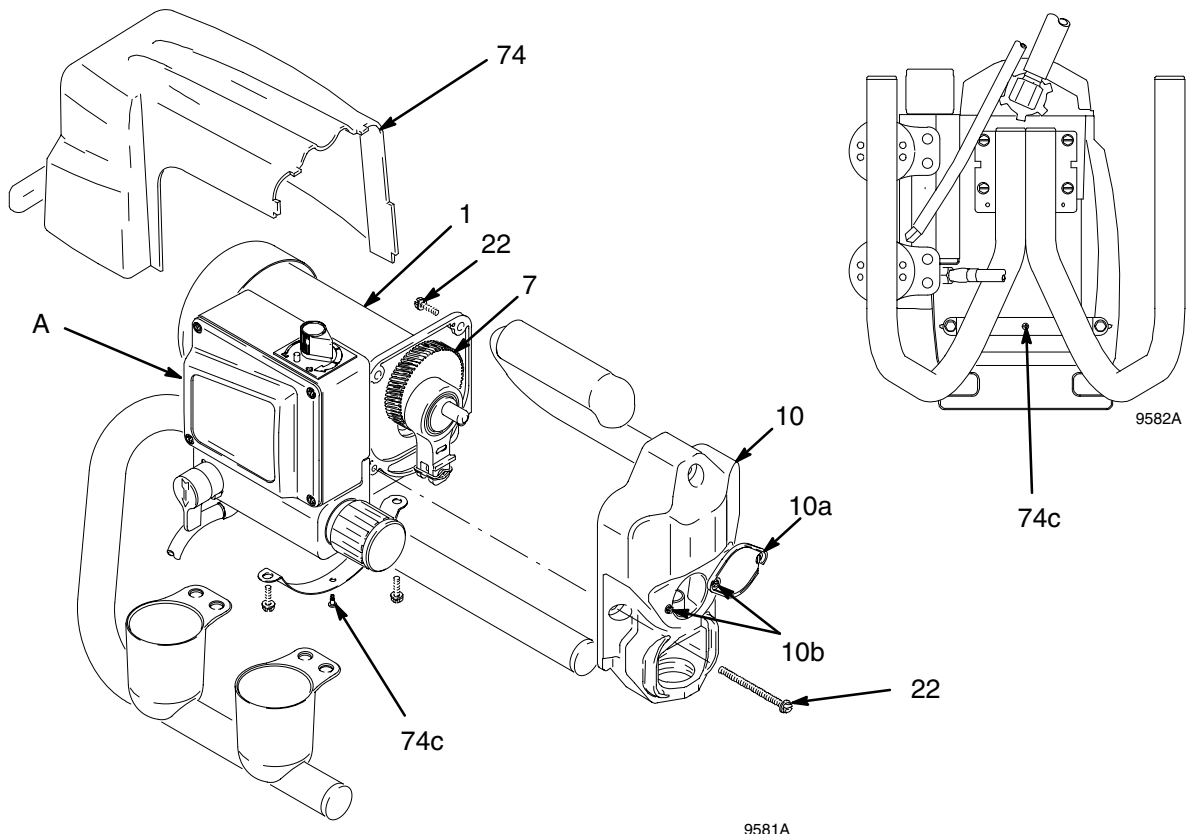

Fig. 8
2. Remove pump (13); **Displacement Pump Replacement**, page 17.
3. Fig. 8. Tip sprayer up. Remove screw (74c) and remove shroud (74).
4. Remove two front screws (22).
5. Remove two back screws (22).
6. Pull drive housing (10) off of motor (1).
1. Push drive housing (10) onto motor (1).
2. Install two front screws (22).
3. Install two back screws (22).
4. Fig. 8. Tip sprayer up. Install shroud (74) with screw (74c).
5. Install pump (13); **Displacement Pump Replacement**, page 17.